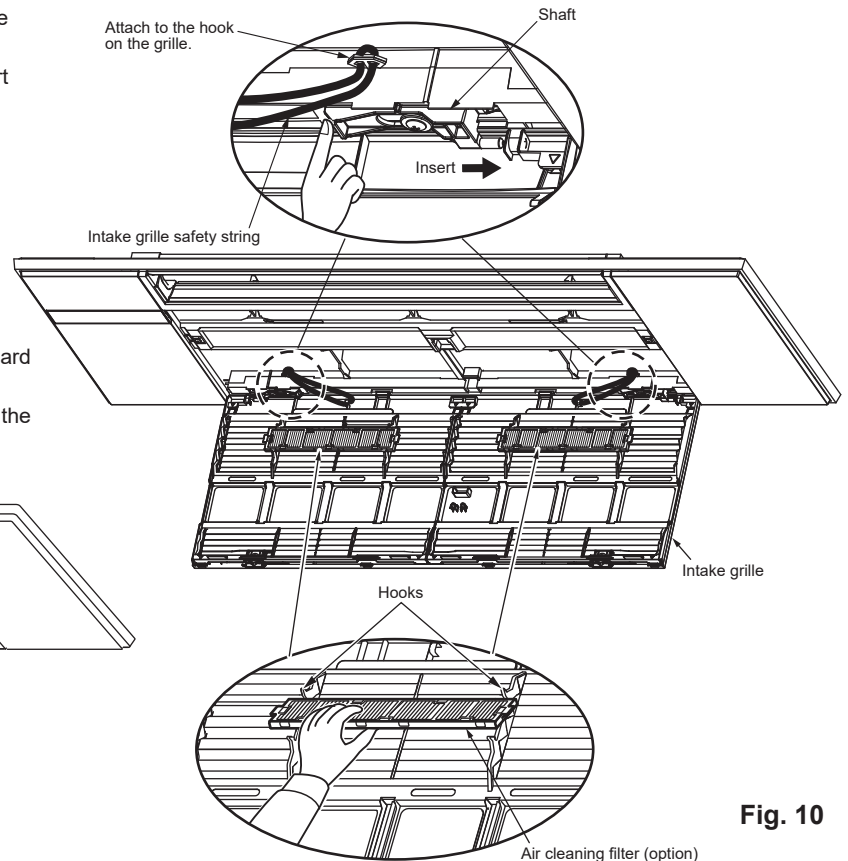

Fig. 10
12. Attach the air cleaning filters (option) to the hooks for them on the intake grille. (Fig. 10)